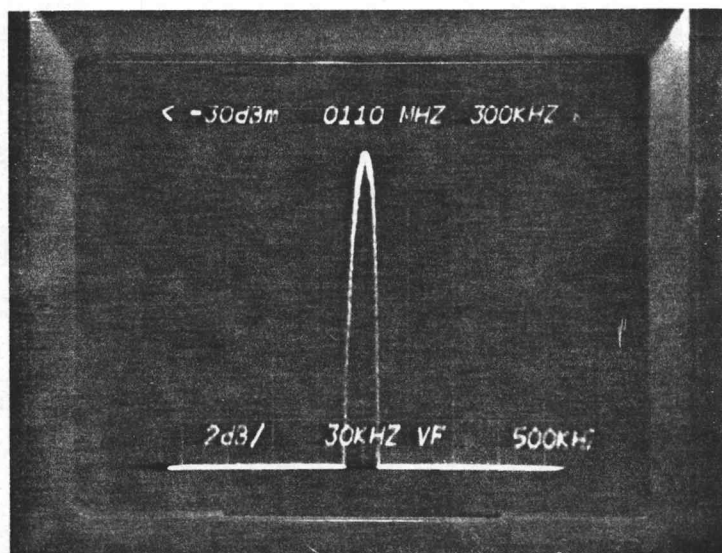
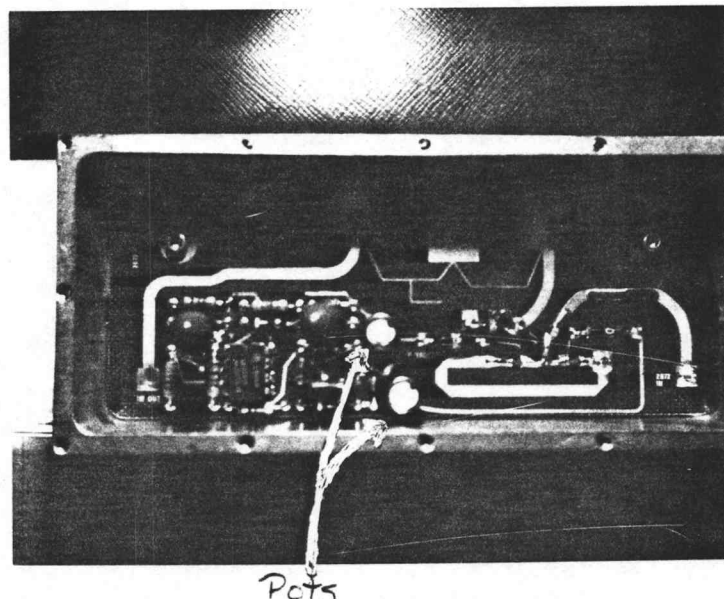

Fig. 3
Fig. 10
You now need to set your reference on the 7L13. That is done by pushing the incident attenuation button 20 on the 8410. Now push the CW marker on the 8620C sweeper. This will give you a display like that of figure 3. Use the Var Ref Level to adjust the signal to 1 div from the top of the screen.
5. Push incident attenuation button 20 on the 8410. Now push the cw marker. This should give you a display of somewhat lower amplitude than that of Fig. 3 maybe, 2-6db lower. Refer to Fig. 10. This is what the circuit board inside the cavity looks like. With your tweaker, turn the pots for a peak on the 7L13 display.